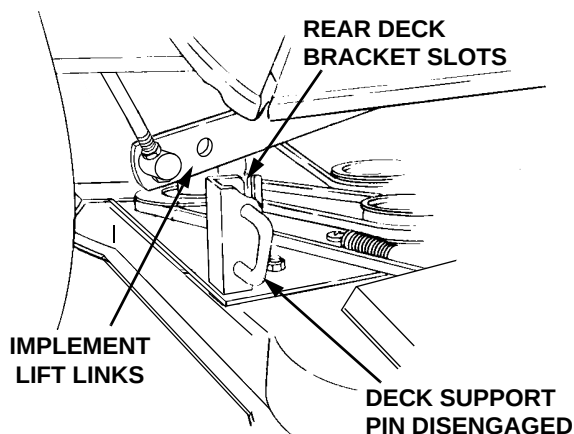

Figure 34
9. If not already done, pull the deck support pins outward, turn downward and release so both spring-loaded pins are held in the disengaged position against the outer surface of the deck brackets (Refer to Figure 34).